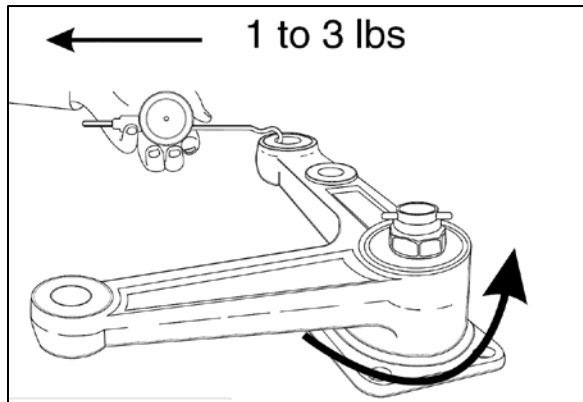

FIGURE 10
16. If necessary, unscrew nut until bell crank starts to turn with the application of 1 to 3 lbs force load as shown on Figure 10.